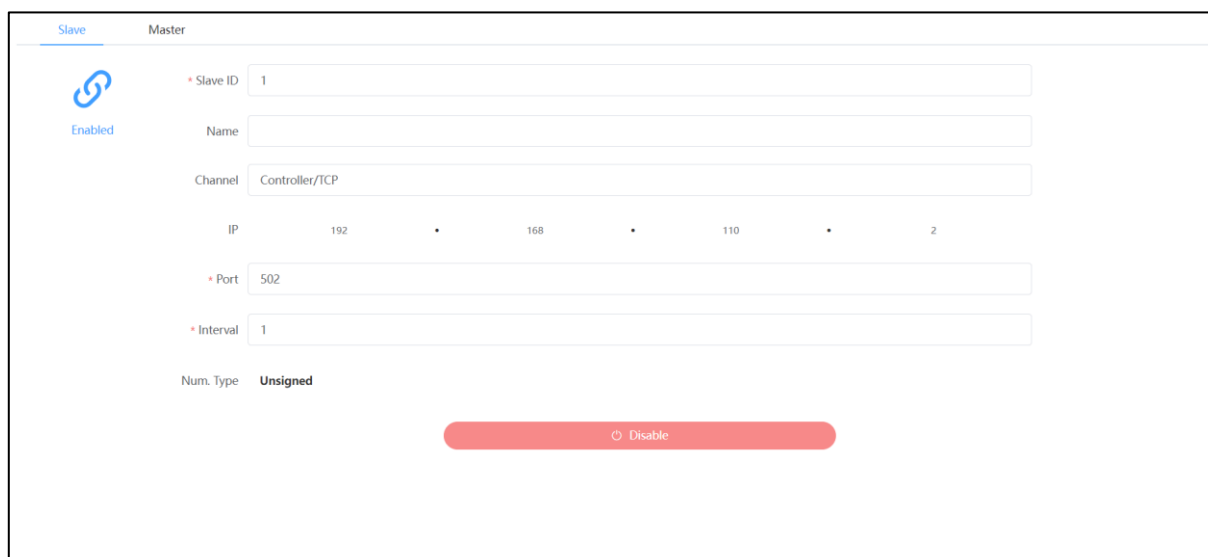

Fig. 6.3 Current Position Interface
- After setting the register address and number, click "Config" to return to the interface in Fig. 6.1 and  to enable the configuration as shown in Fig. 6.3.